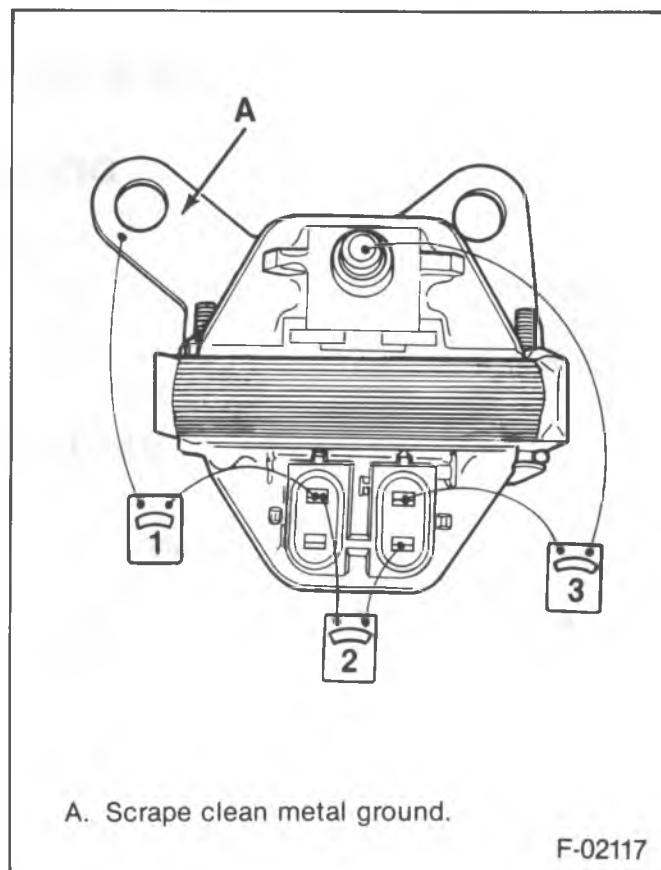

Figure 28—Testing the Ignition Coil
- Connect the ohmmeter as shown in figure 28, step 1. Use the high scale. The reading should be infinite. If not, replace the coil.